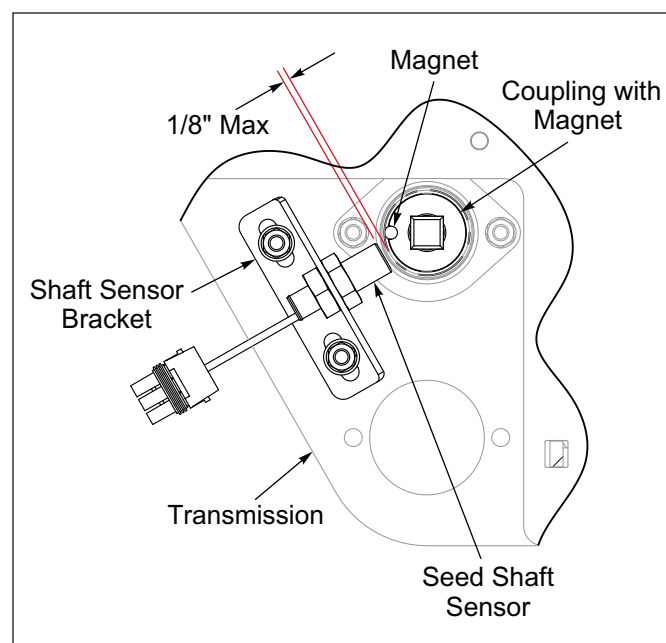

Figure 2-46: Console w/Clutch Control LH Rear Seed Shaft Sensor Detail
6. Slide/Position Seed Shaft Sensor so it is 1/8" from the magnet. **See Figure 2-46.**